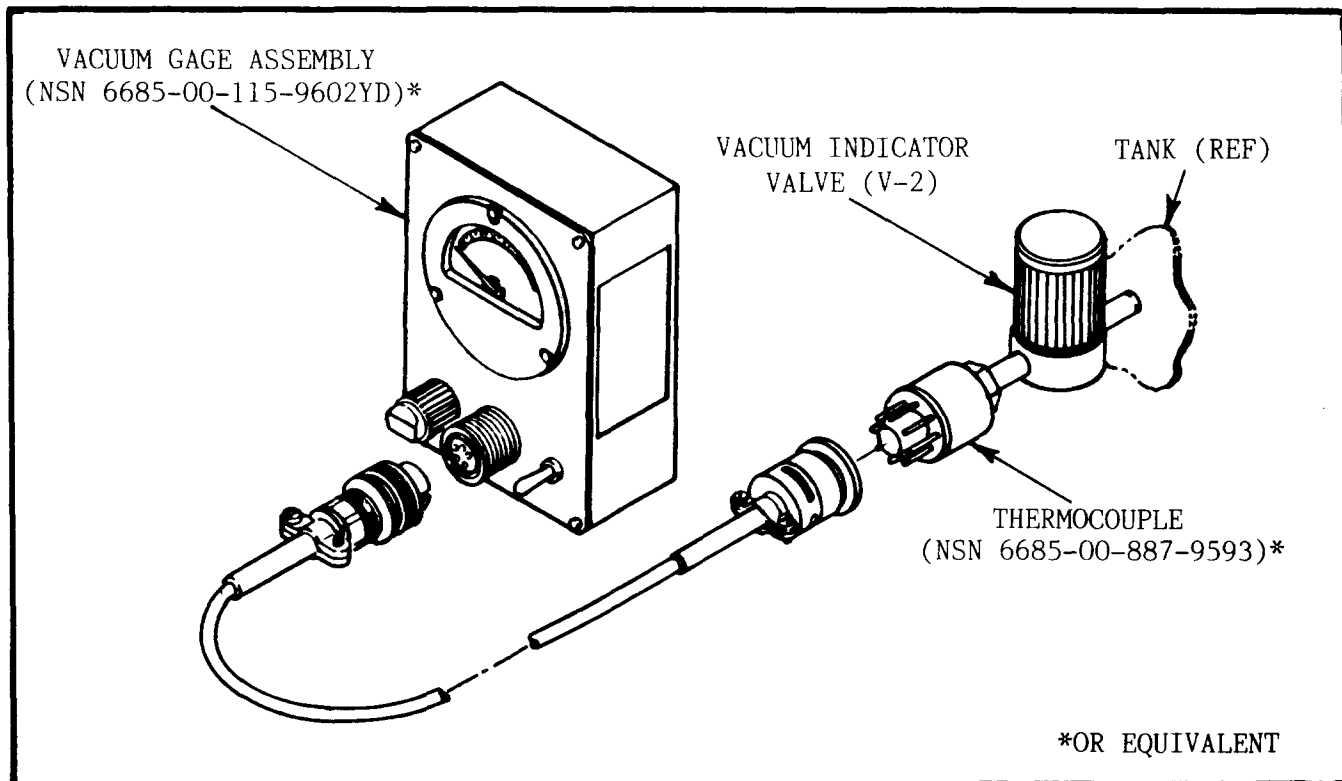

Figure 5-4. Annular Space Efficiency Test.
5-5.4 Vacuum Efficiency Test Procedure (Figure 5-4). The use of the Dual Efficiency Meter is recommended, if available, in lieu of the portable vacuum gage for determining the efficiency of the Tank vacuum. The vacuum gage is used in the procedures as follows:
a. Attach a portable thermocouple (vacuum) gage (Refer to Table 2-1) receptacle to the vacuum sensor as shown in Figure 5-4.
b. Open the vacuum indicator shut-off valve (V-2) and allow the system to stabilize for two (2) minutes before proceeding.